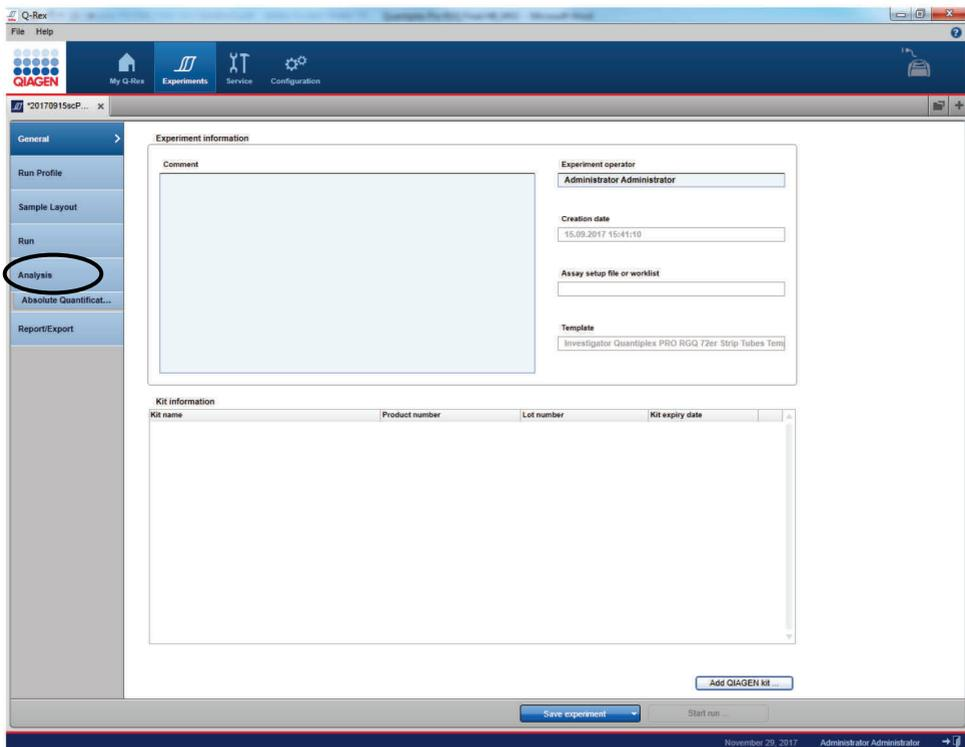

Figure 28. Setting analysis parameters in Q-Rex.
3. Click on the left side in the step marker on “Analysis” (Figure 28).